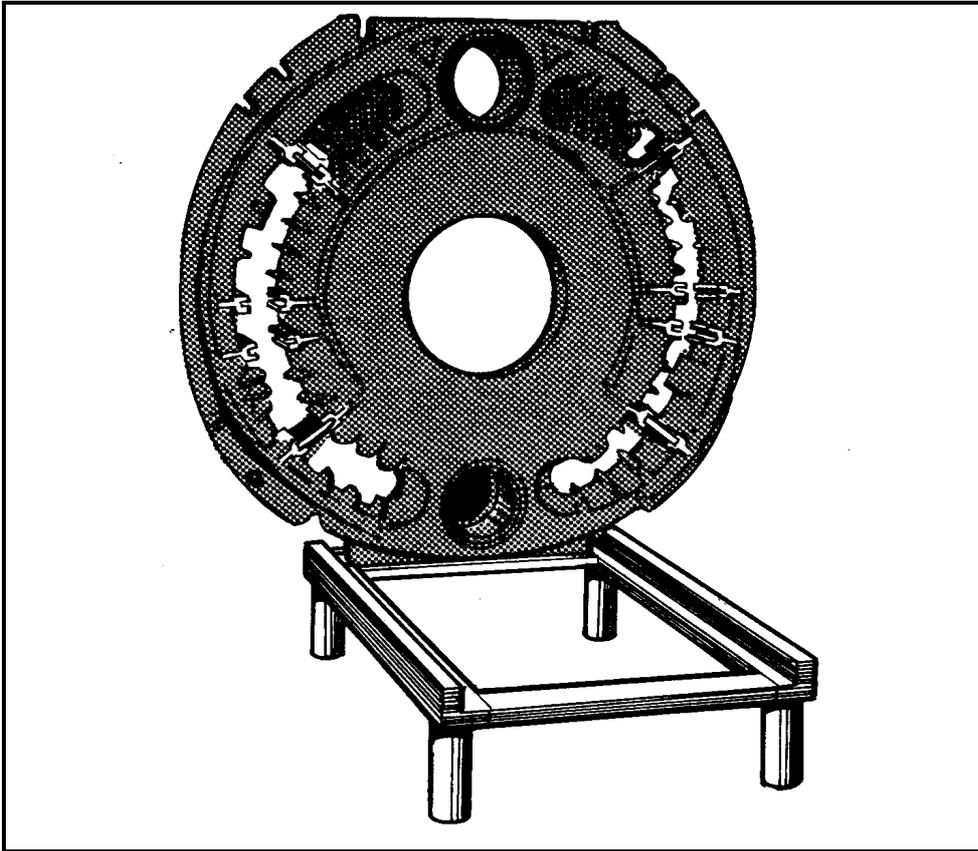

Figure 10.3 – Rear Section and Cradle
a. Position rear section (Item 4) onto end of cradle (Item 1) (Fig. 10.3) ensuring that it is safely supported. Sections can be lifted by utilising suitably tested and protected straps through the ports or flueways.